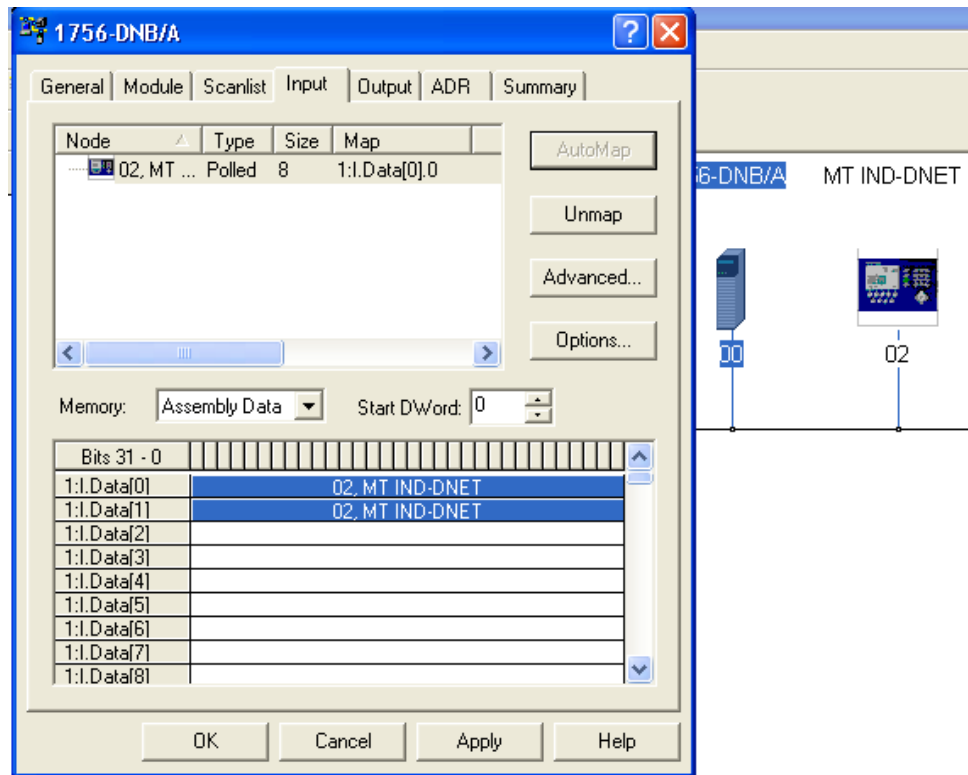
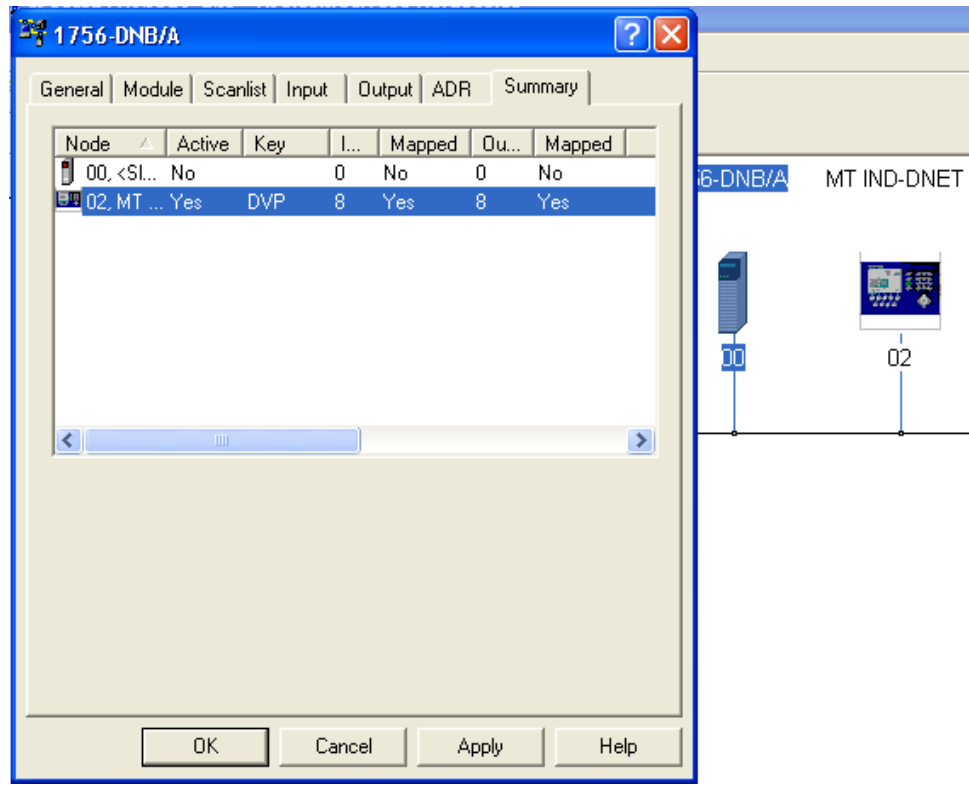

Figure 4-27: IND Terminal Mapping
Figure 4-28: Summary Tab
- Once the IND Terminal has been added to the scanlist, access the Properties dialog to verify its I/O mapping (Figure 4-27 and Figure 4-28) within the scanner card. Note that